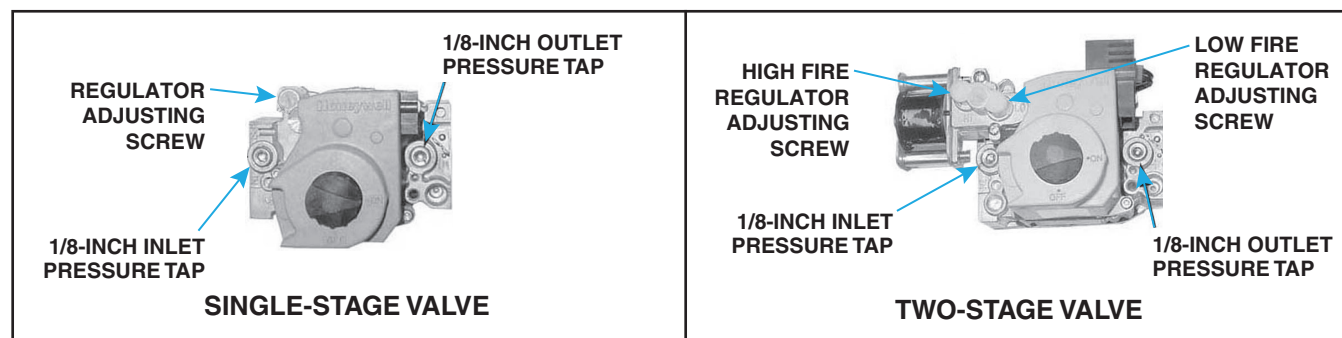

Figure 33. Combination Gas Valve Pressure Taps
1. With manual valve on combination valve positioned to prevent flow to main burners, connect manometer to 1/8-inch pipe outlet pressure tap (see Figure 33) on valve.
4. Adjust pressure as necessary to required setting by turning regulator adjusting screw (see **Figure 33**)—IN (clockwise) to increase pressure or OUT (counterclockwise) to decrease pressure.
2. Connect manometer to 1/8-inch inlet pressure tap on valve (see Figure 33).